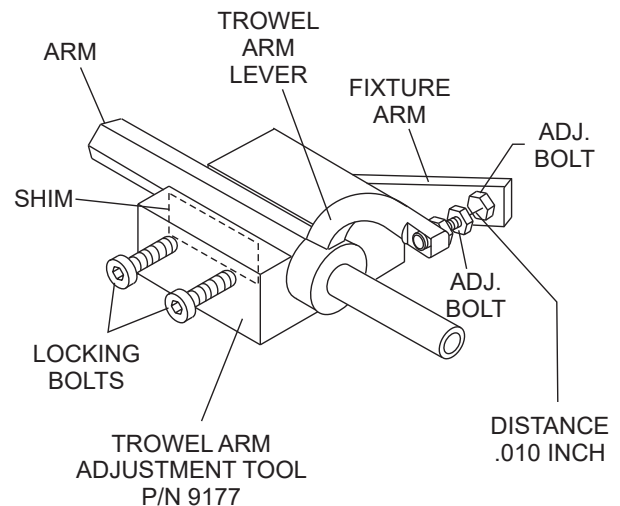

Figure 53. Trowel Arm Adjustment Tool Components
3. Unscrew the locking bolts on the adjustment tool and place the trowel arm into the fixture channel as shown in Figure 53. A thin shim may be required to cover the blade holes on the trowel arm. Make sure to align the trowel adjustment bolt with the fixture adjustment bolt.